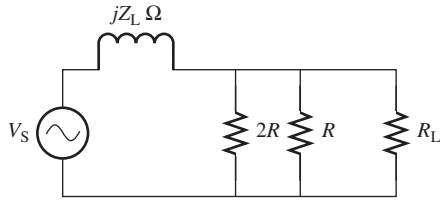

FIGURE P6.53 Circuit for Problems 6.53 and 6.54.
- 6.53 (B)* Express the Thévenin/Norton equivalent resistance, R_L , in terms of the resistance, R , and impedance of inductor Z_L for the circuit in Figure P6.53.
- 6.54** (H) In Figure P6.53, the voltage source is $V_{th} = 50\angle 0^\circ$ the Thévenin voltage and Norton current are $V_{th} = 20\angle -60^\circ$ and $I_{th} = 2\angle -90^\circ$. Determine the value of R and Z_L .